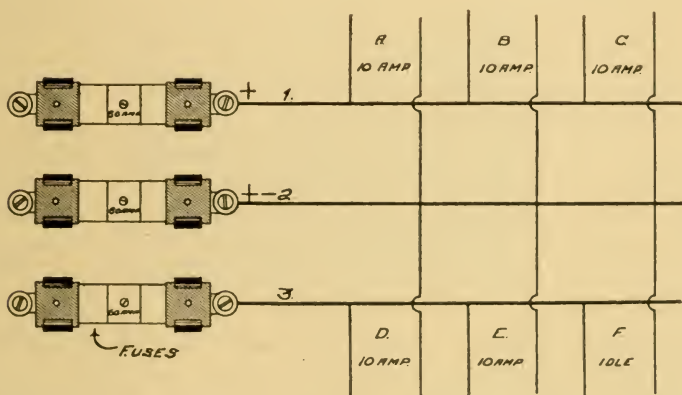

FIGURE 18
(47) In Fig. 18 we have a diagrammatic representation of six house circuits fed by a 3-wire circuit, each wire of which is fused at 60 amperes. Circuit F is idle. Circuits A, B and C are each using 10 amperes, or a total of 30 amperes. Circuits D and E use a total of 20 amperes. Can we connect a projection arc circuit, the arc using 25 amperes, to circuit F? The offhand answer is: "No, the circuits are already using 50 amperes. A 25 ampere addition would overload the fuses." This is an error for the circuits are not using 50 amperes, but 30, ten of which are handled individually by the generator attached between the upper wire and the neutral.